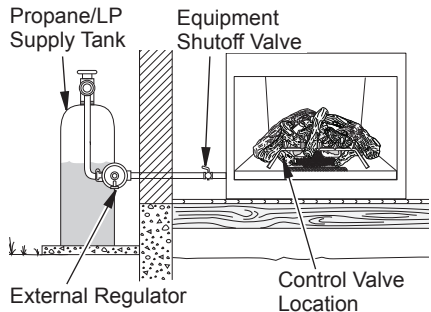

Figure 16 - Checking Gas Joints for Propane/LP Gas
3. Check all joints from gas meter to equipment shutoff valve for natural gas or propane/LP supply to equipment shutoff valve for propane/LP (see Figure 16 or 17). Apply a noncorrosive leak detection fluid to all joints. Bubbles forming show a leak.
4. Check all joints from equipment shutoff valve to control valve (see Figure 16 or 17, page 17). Apply a noncorrosive leak detection fluid to all joints. Bubbles forming show a leak.